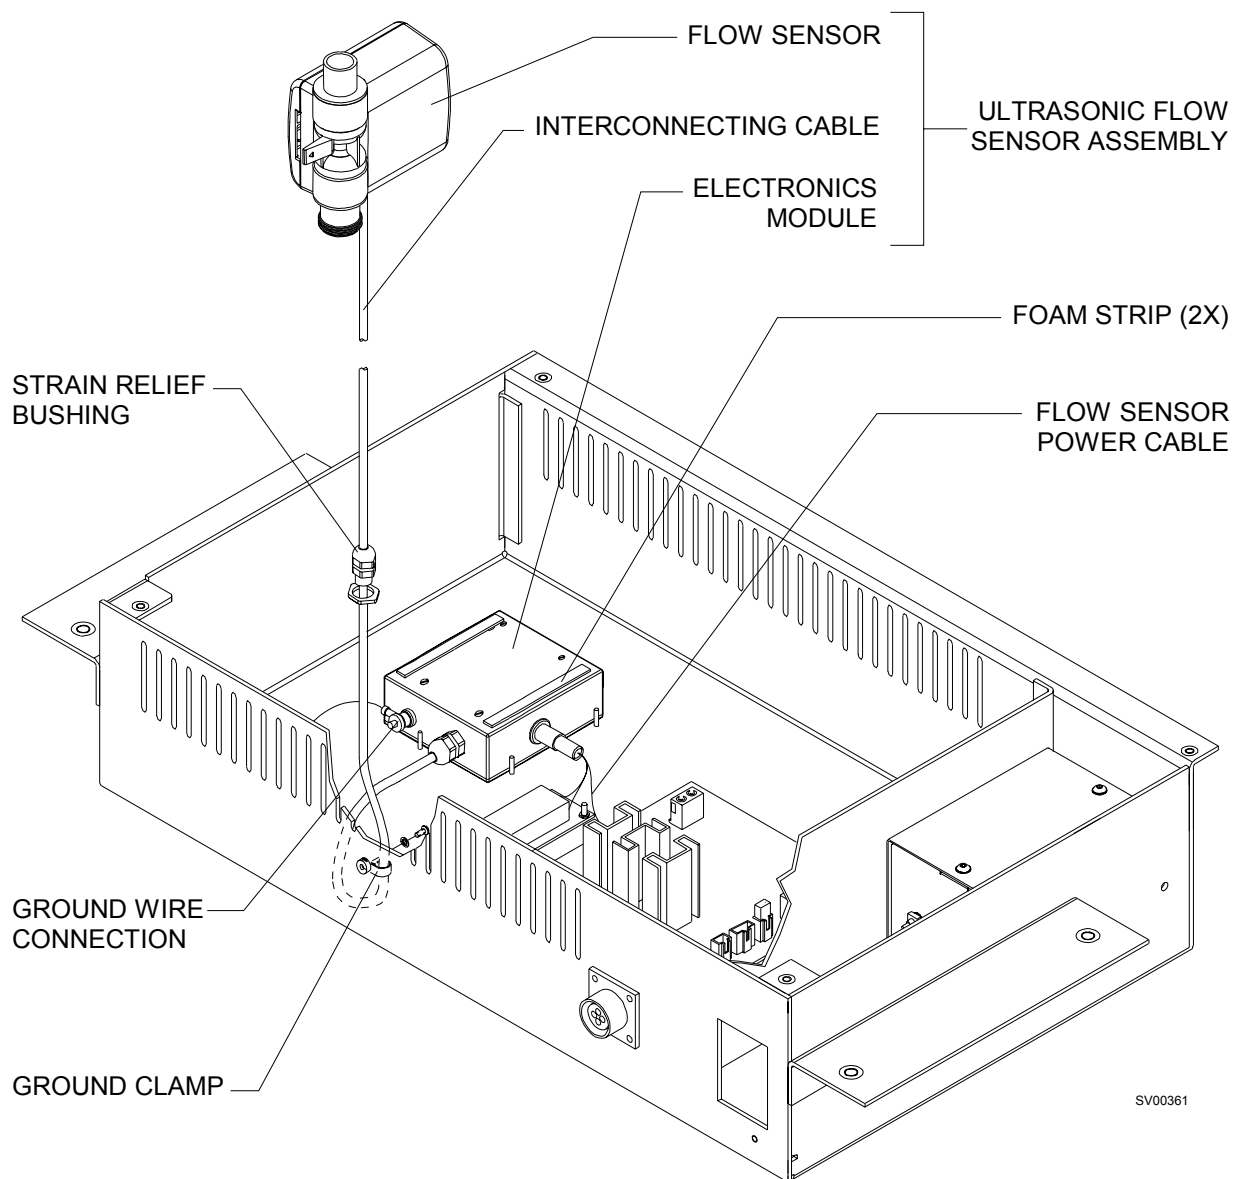

FIGURE 4-22. Flow Sensor Replacement
The ultrasonic flow sensor assembly in the Narkomed MRI comprises the transducer unit at the absorber, its electronics module located in the battery box, and a permanently joined interconnecting cable. Access to the electronics module requires opening the battery box and removing the battery. Connections and mounting arrangement are shown in Figure 4-22.
- 4.22.14 Install two self-adhesive foam strips (P/N 4109748) on top of the module as shown in the Figure 4-22.